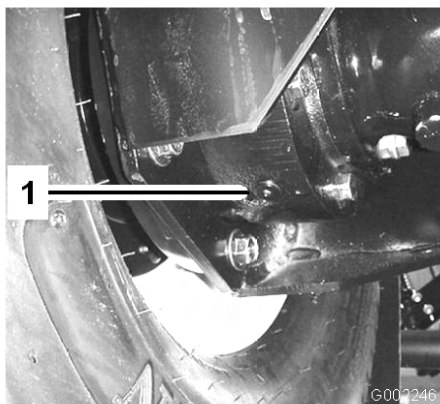

Figure 48
4. Place a pan under the inner drain plug and remove it (Figure 48).